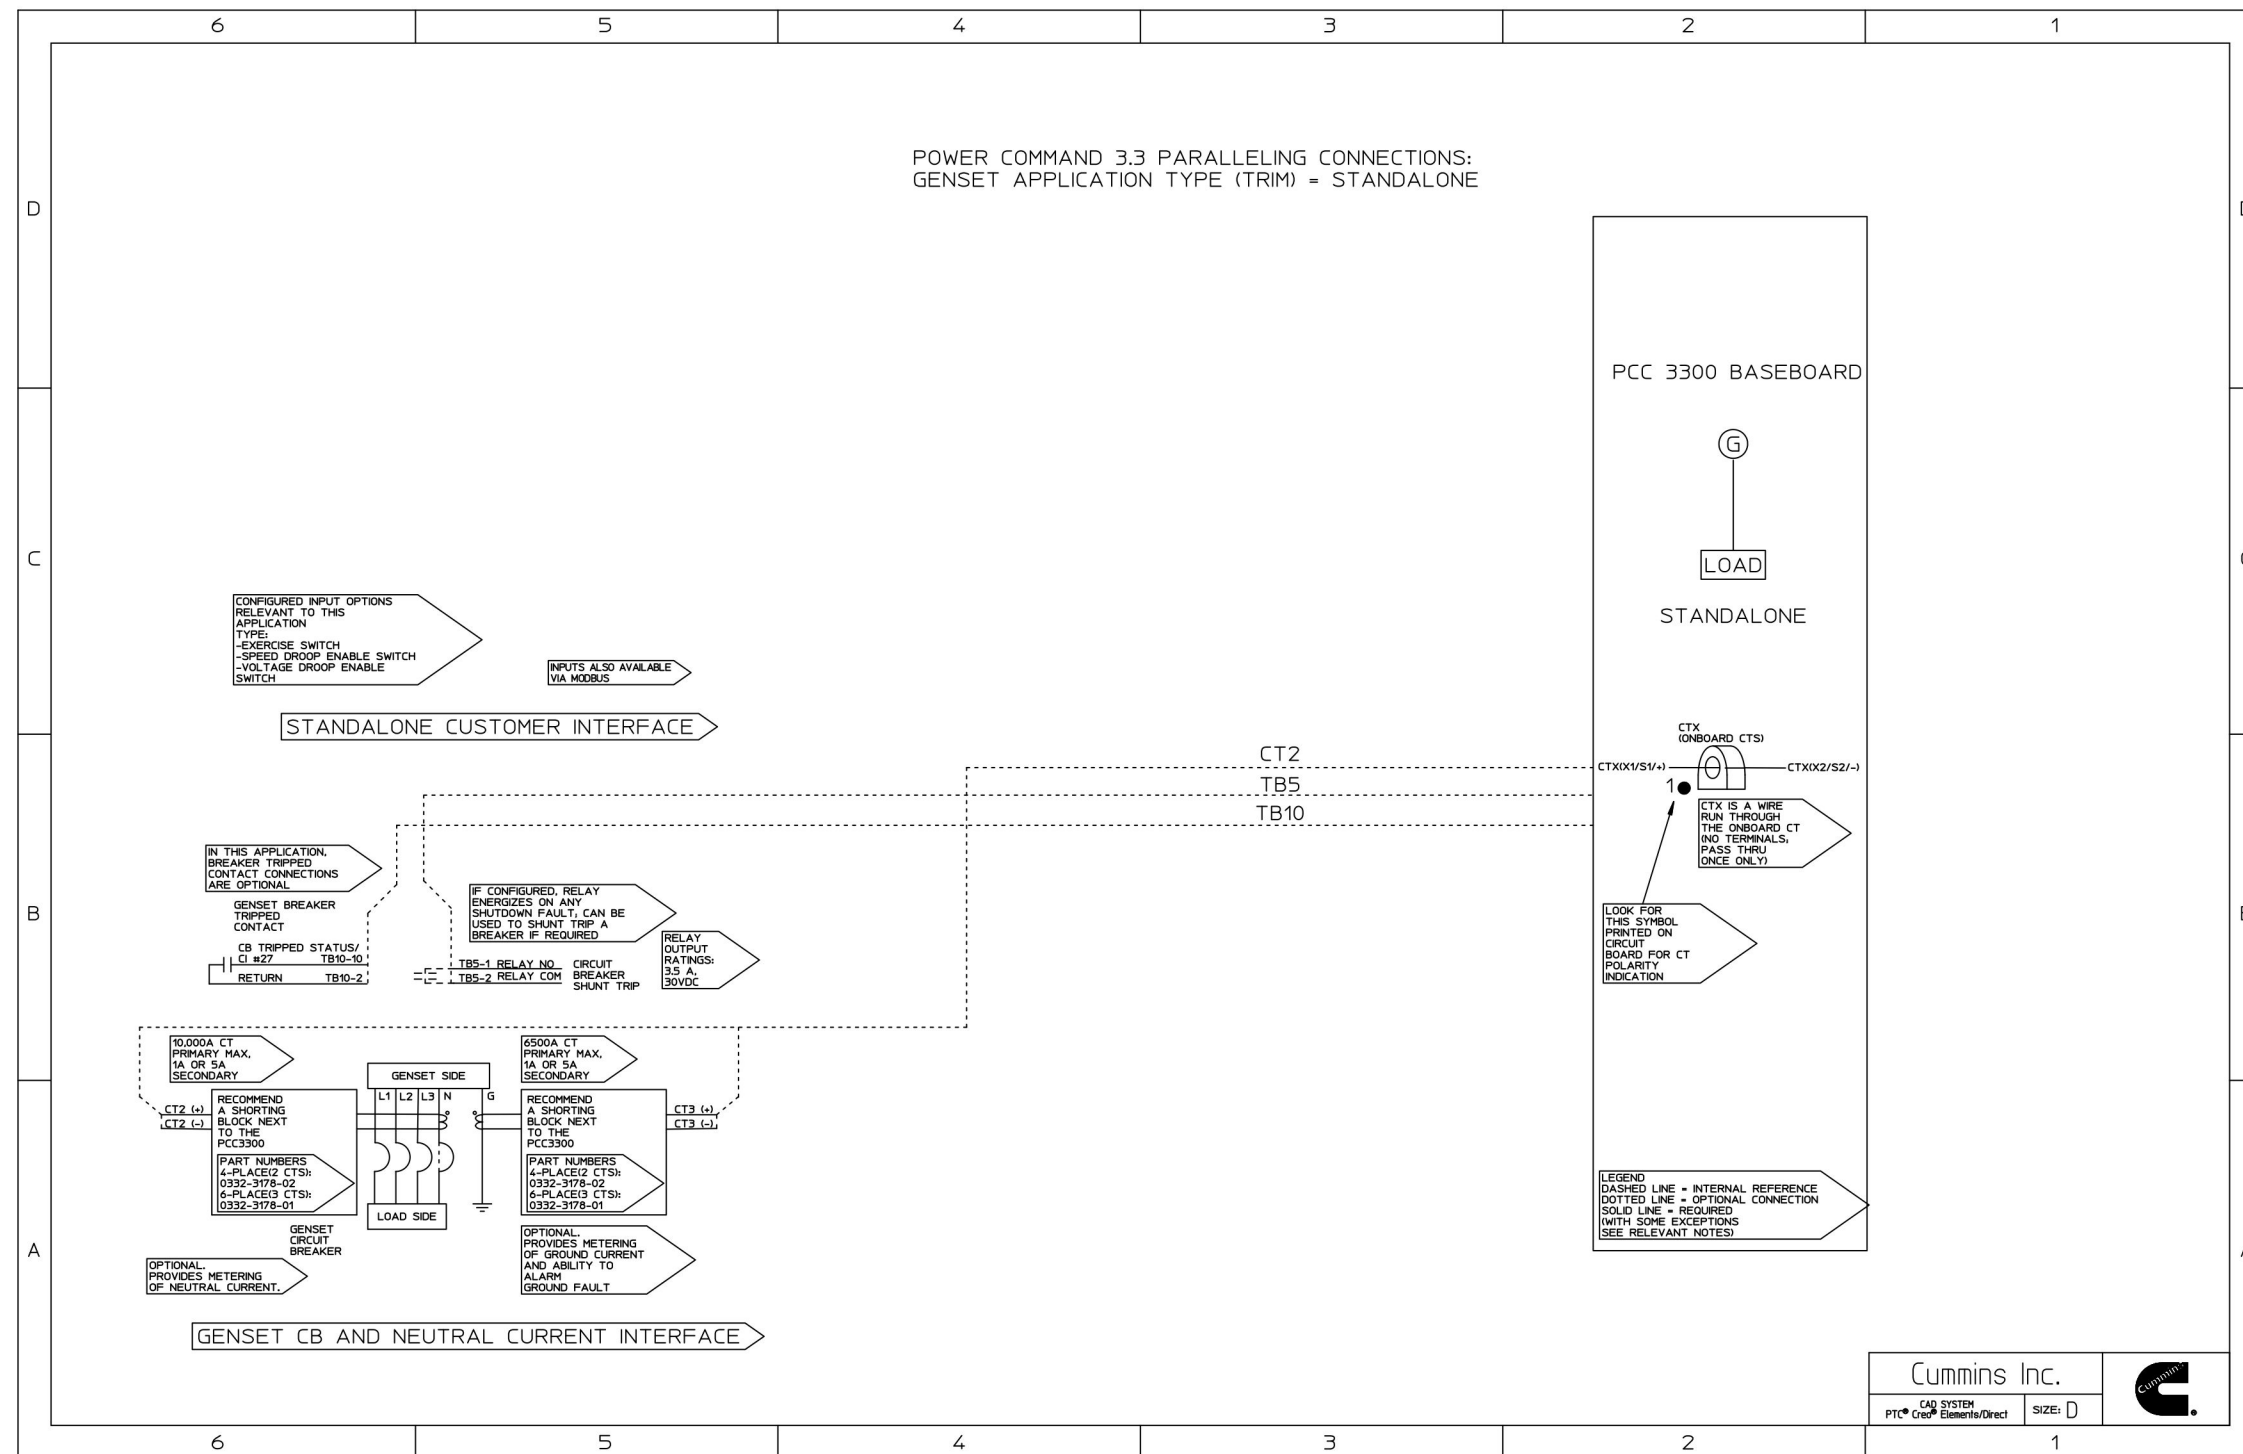

FIGURE 105. POWERCOMMAND 3.3 PARALLELING CONNECTIONS - STANDALONE GENERATOR SET
- Figure 105. PowerCommand 3.3 Paralleling Connections - Standalone Generator Set 409